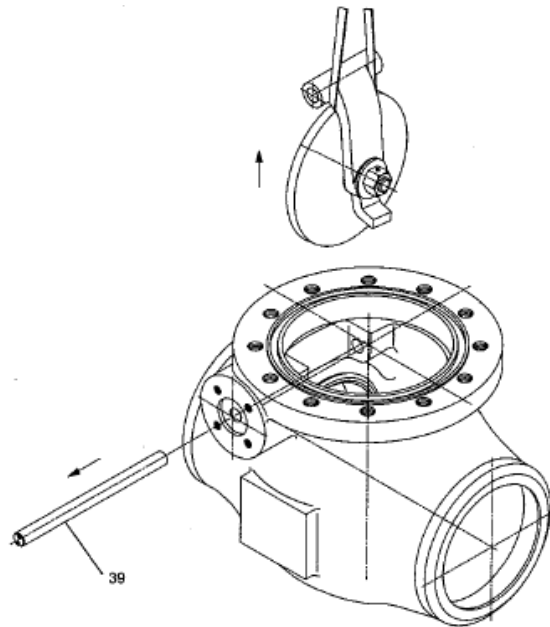

FIGURE 9
- A. Hinge rotates on pin inserted through body wall (Fig. 9).
5.1.2.1 Configuration A (Figure 9)